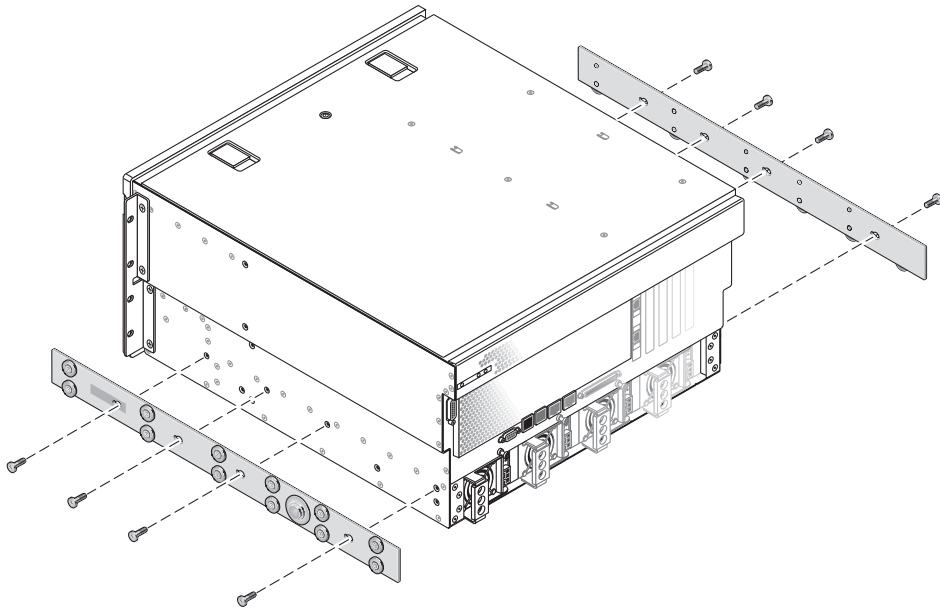

FIGURE 3-9 Securing the Glides to the System Chassis
5. Align the holes in the glides with the appropriate holes on the sides of the server and, using the eight screws from the ship kit (four screws for each side), secure the glides to the sides of the server (FIGURE 3-9).